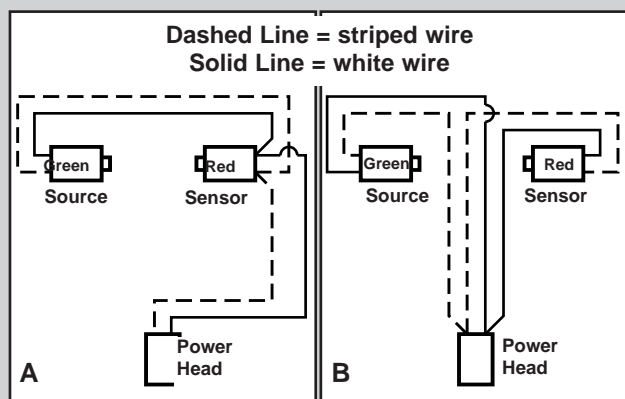

FIG. 3-5 STB wiring methods.
- Route wire using either method shown (Fig. 3-5).